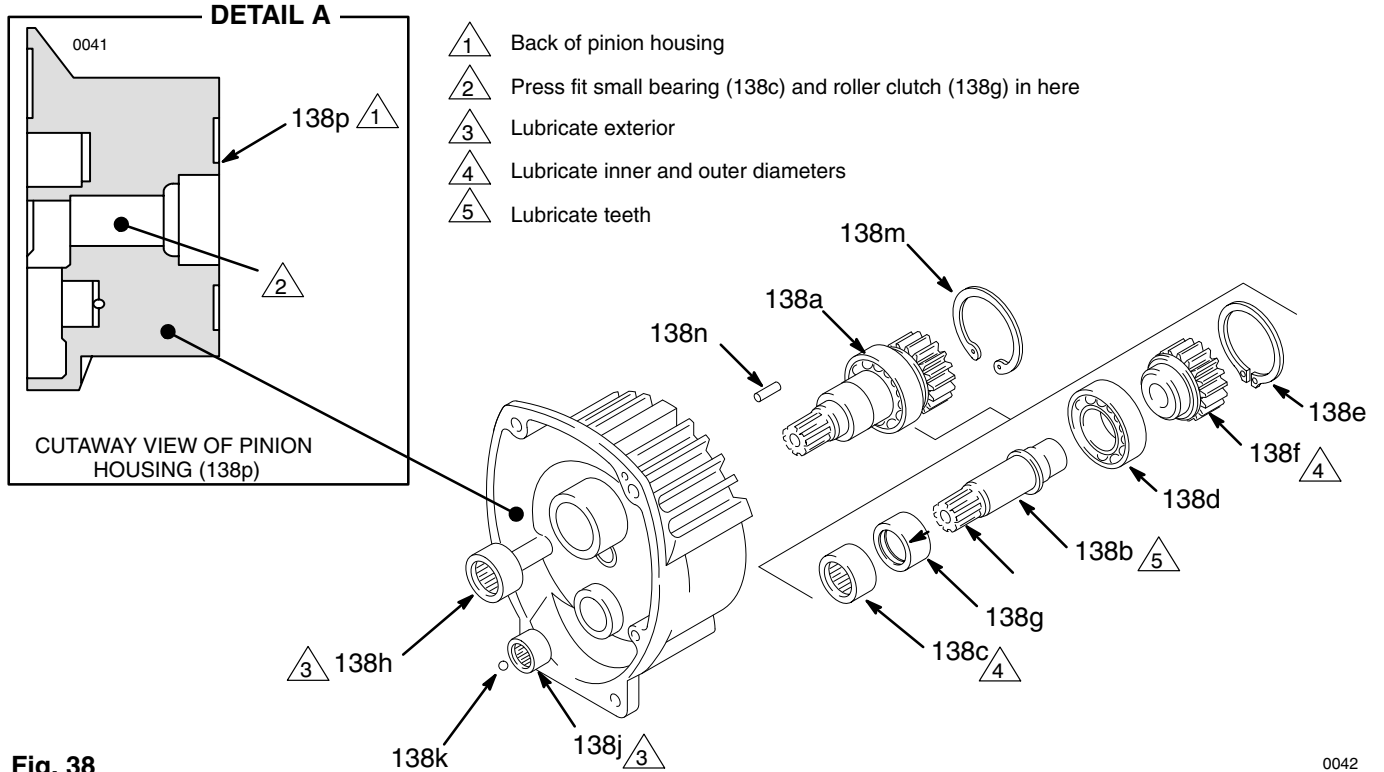

Fig. 38
NOTE: Refer to Fig. 38 except where noted.
4. **Using a hydraulic press**, place pieces of steel bar stock on the inner race of the large bearing (138d) and press the shaft through the hub and bearing. See Fig. 38.
5. Apply lubricant to the parts as shown in Fig. 38.